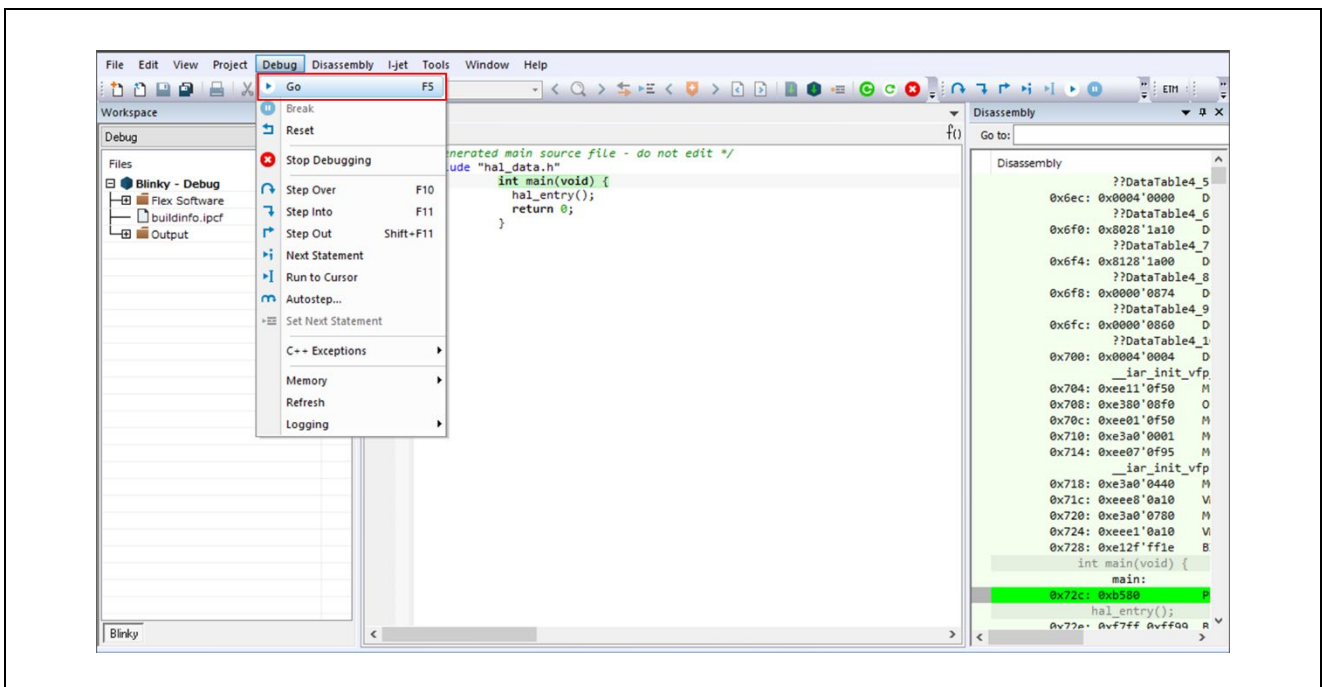

Figure 78 : Go Button
5. Run the program of primary project as shown in Figure 78 to copy the binaries of the secondary and subsequent projects to the internal RAM in the primary project. After the primary project reaches `hal_entry` in `main.c`, another core is executed. If the LEDs are blinking, proceed to the next step.